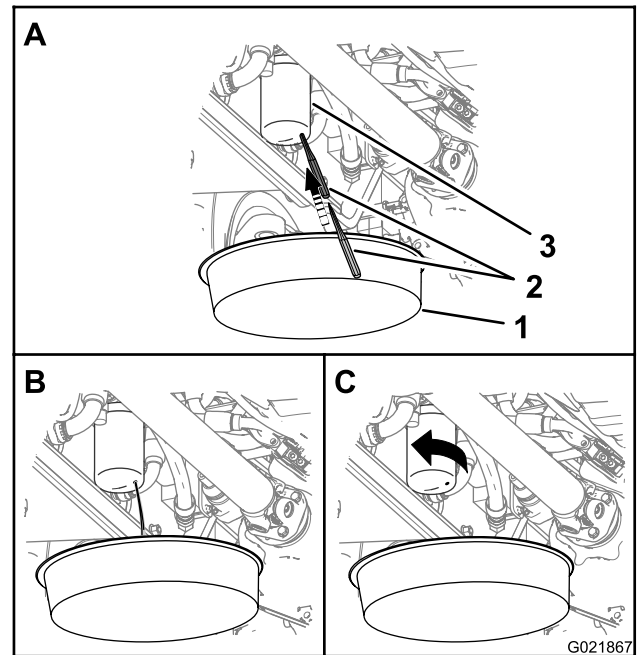

Figure 92
Note: You can access the hydraulic-pressure filter from under the right side of the machine, behind the hydraulic reservoir (Figure 92).
- Place a container under the hydraulic-pressure filter (Figure 92).
- Puncture the bottom of the hydraulic-pressure filter, and allow the residual hydraulic fluid to drain into the container (Figure 92).
3. Rotate the hydraulic-pressure filter counterclockwise and remove the filter (Figure 92).